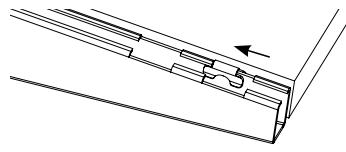

Figure 5
**STEP 7:** When fully seated, push the shelf towards the wall to secure the clips to the bracket (**Figure 5**). Install the plastic bracket cap on top to lock in place.